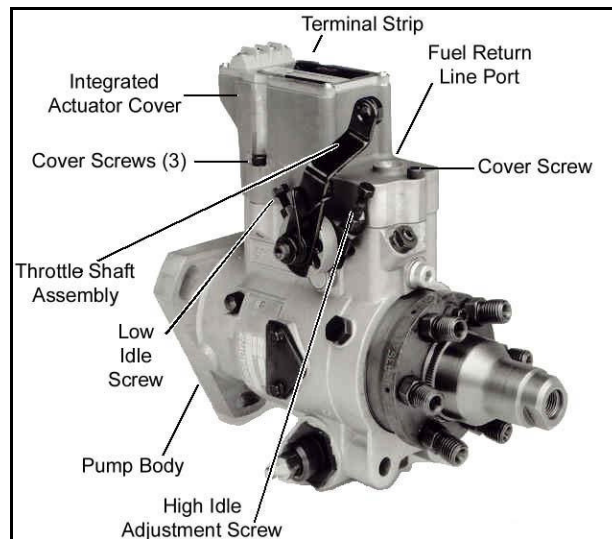

Figure 6
1. Position the shut-off shaft assembly (if equipped with one) in the “Fuel On” position by rotating it in the direction shown in Figure 6 until it reaches its limit of travel. Secure the shut-off shaft assembly in place with existing mechanical linkage. A spring may be used to hold it in place when there is no linkage.
3. Adjust the droop by turning the droop adjusting screw in a counter-clockwise (CCW) direction until it stops. See Figure 6. Some pumps may not be equipped with a speed droop adjustment.
6. Keep increasing the speed until it is approximately 20 RPM higher than the speed calculated in Step 2 of the control box installation procedure. If this speed cannot be obtained, loosen the jam nut on the high idle speed adjustment screw of the throttle lever and turn the high idle adjustment screw counterclockwise (CCW) until the calculated speed can be obtained. See Figure 6.
7. Set the speed with the electronic governor to the value calculated in Step 2 of the control box installation procedure. Then *slowly* turn the high idle adjustment screw on the throttle lever clockwise (CW) until the speed just starts to decrease. Turn the high idle adjustment screw counterclockwise (CCW) until the speed just controls at the proper calculated speed. Tighten the high idle adjusting screw locknut to 35-45 lbs/in.
8. Turn the low idle screw clockwise (CW) to lock the throttle lever at this maximum position. Tighten the low idle adjustment screw locknut to 35-45 lbs/in.